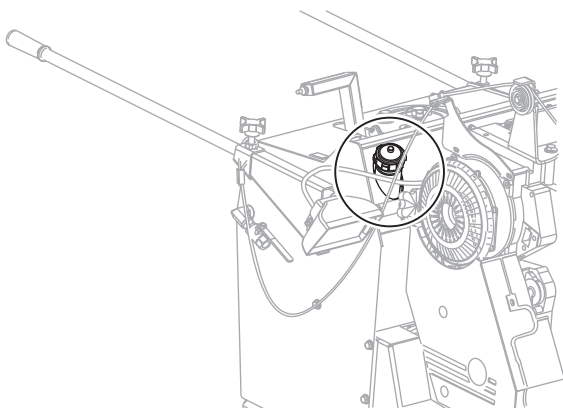

Figure 20. Fuel Gauge
1. Determine if the engine fuel is low (Figure 20).